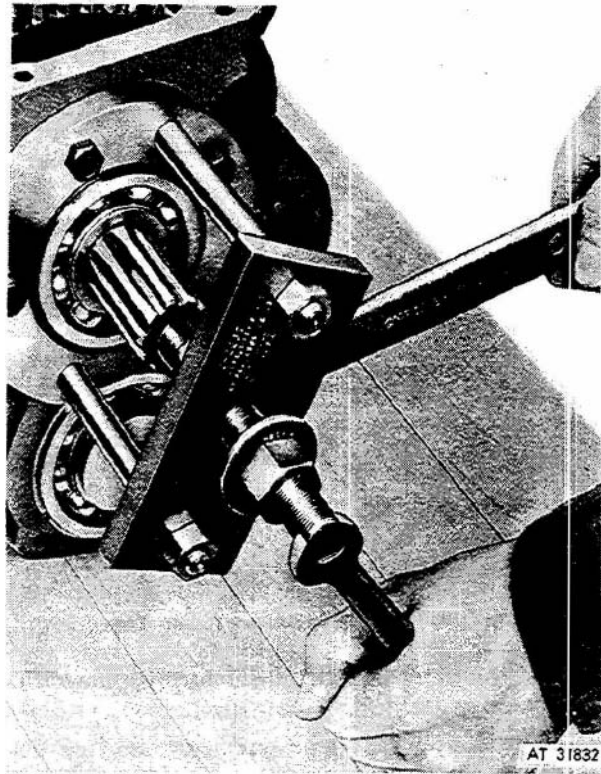

Figure 3-36. Pressing mainshaft into case.
(26) Manually align pilot on front end of mainshaft assembly (17) and insert into pilot roller bearings (6) in pilot bore of clutch gear (5).
(27) Press mainshaft assembly (17) and bearing assembly into rear of case until bearing locating snap ring (20) on outer race of bearing contacts rear face of case (fig 3-36).